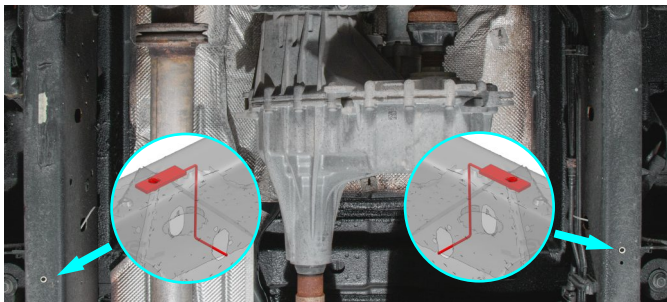

Fig. 1
1. Install insert nuts M10 with wire (item B) (fig.1).